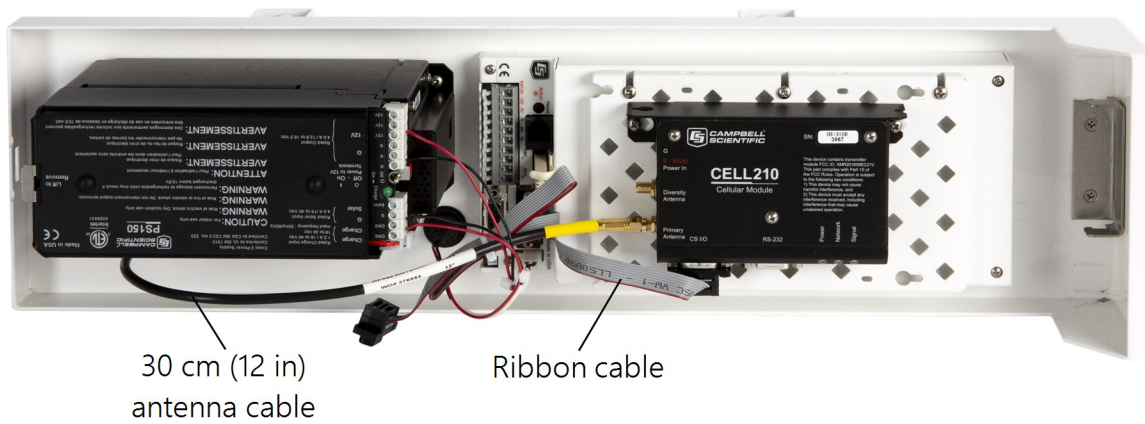

FIGURE 6-38. Cellular modem mounted inside the ET107 (power supply not shown)
2. Thread the smaller SMA connector end of the internal antenna cable underneath the battery cables and screw it to the RF antenna connector on the cellular modem (FIGURE 6-38 (p. 55)).
4. Use the ribbon cable to connect the CS I/O port on the CELL210 to the CS I/O 9-pin port on the ET107 (FIGURE 6-38 (p. 55)).